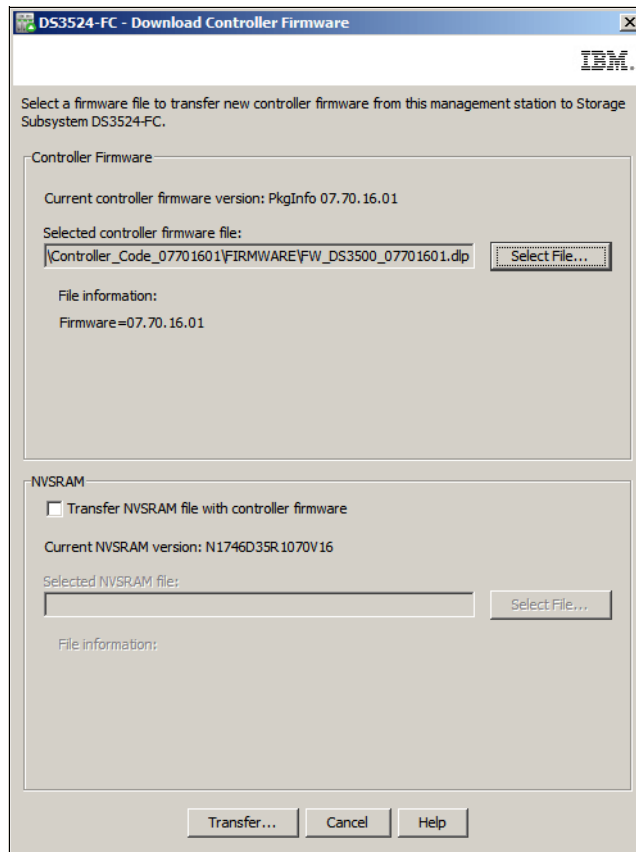

Figure 14-69 Download Controller Firmware - Select controller file
4. Click **Select File** in the Controller Firmware section and type or browse to the file name (Figure 14-69 on page 375).